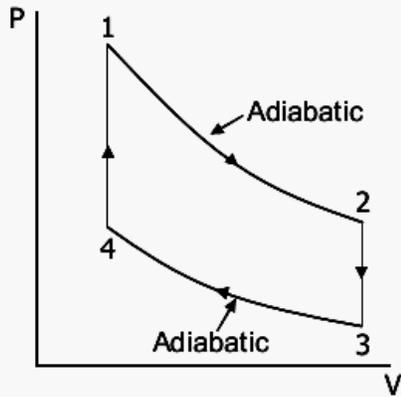

Figure 1.2 : Otto Cycle
- 4-1 Constant volume heat addition (Figure 1.2).